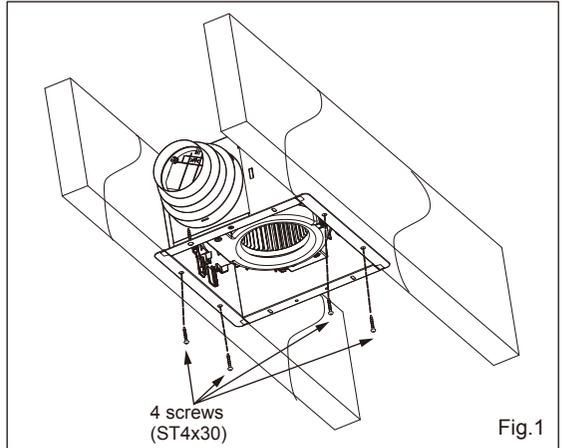

Fig.1
- A** If the spacing L is 12 inches (305 mm) on joists, please follow the installation step as (Fig.1). Secure 4 screws (ST4X30) at flange of frame to the joists. Then follow steps 6 to 9 of Installation I (page 6-8) to complete the installation.